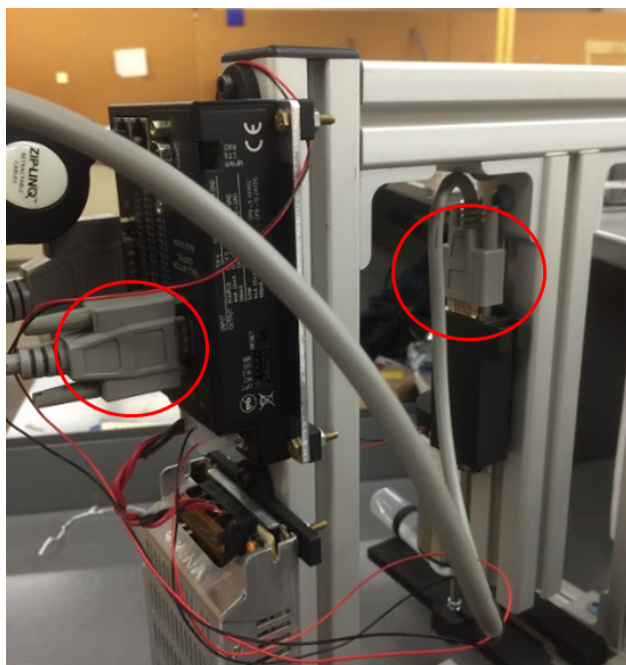

Figure 26. 15-Pin Cable going from 15-Pin Adapter to Motion Controller
1. Connect the 15-Pin Adapter to the Motion Controller using the 15-Pin Cable (3x), (Figure 26).